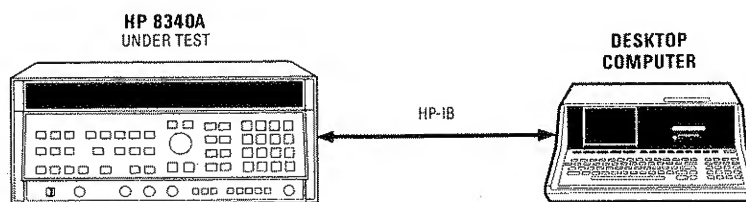

Figure 4-20. 8340A HP-IB Operation and Verification Test Setup
1. Connect the equipment as shown in Figure 4-20. Enter the program shown in Table 4-30 if the HP 85F is used, or the program in Table 4-31 if the HP 9826A or 9836A is used. Press the RUN key. The program will display the 8340A status bytes similar to Table 4-29. After the program goes through the output loop routine about two times, all status bits should be "0" and the 8340A should be in LOCAL mode (front panel REMOTE indicator not ON).